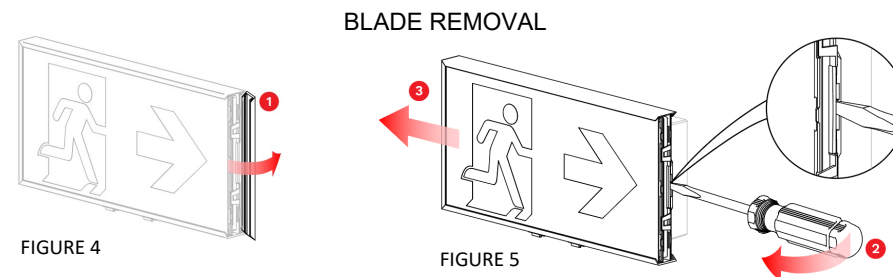

FIGURE 4
2. Remove Side extrusion (Figure 4)